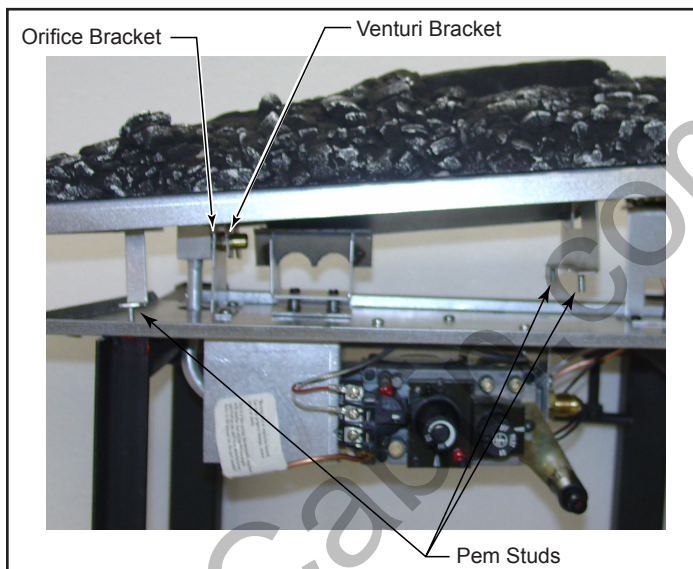

Figure 13 - Tilt ember bed slightly to correctly place on venturi and air shutter.
2. Carefully remove ember bed by tilting the right side up and lifting out toward the right side of the unit. (Figure 13)
1. Replace burner making sure venturi on bottom of ember bed aligns with orifice and is seated properly on air shutter assembly. (Figure 13) Make sure burner is slid into place at a slight angle and opposite to how it was removed. Make sure when burner is slid into position, the venturi bracket is on the right side of the orifice bracket. The venturi bracket should straddle the hex portion of the orifice. When burner is slid into place, the three (3) pem studs should slide down through clearance holes into the bottom of the control panel.